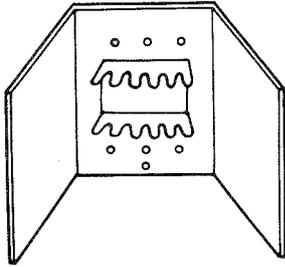

Figure 9 - PC Board Retainer.
(2) Mounting the casing (see Figure 9)